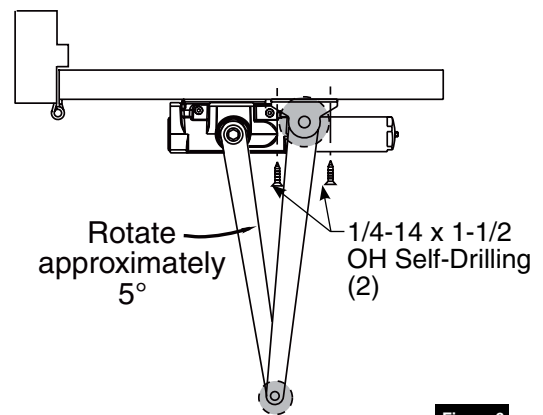

Figure 6
5. Preload and Fasten Arm to Frame. (Figure 6)